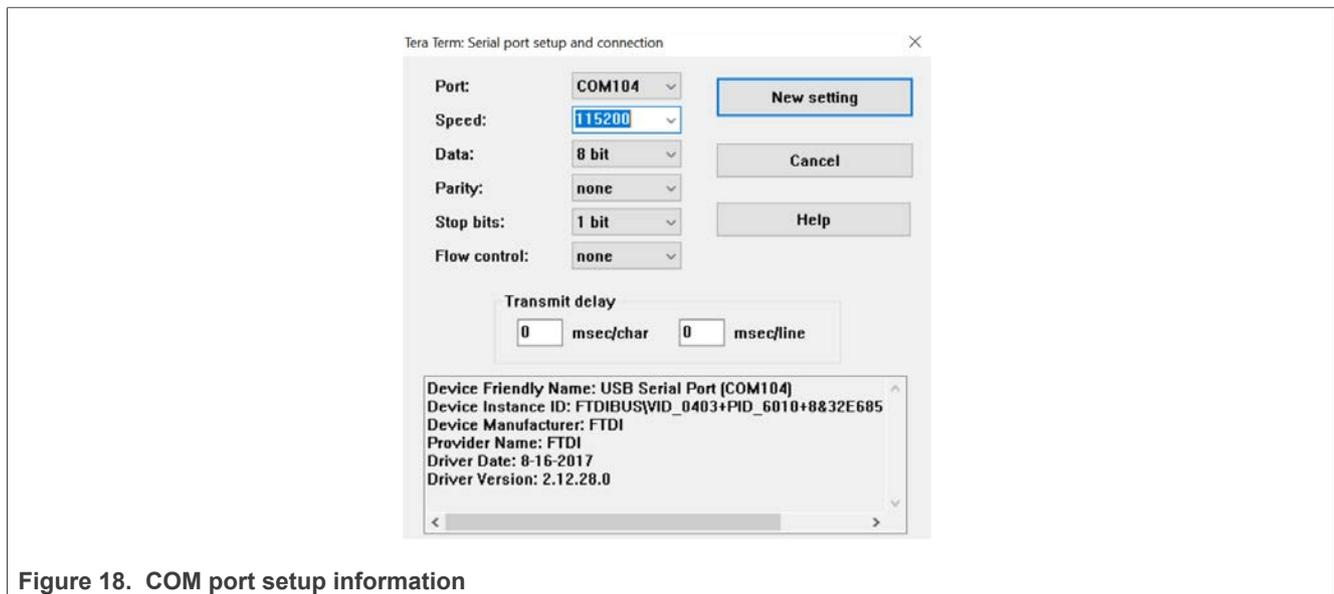

Figure 18. COM port setup information
**Step 6** – Look for the COM port setup information and configure the COM port to a baudrate of 115200. Figure 18 shows the Serial port setup and connection window of Tera Term.